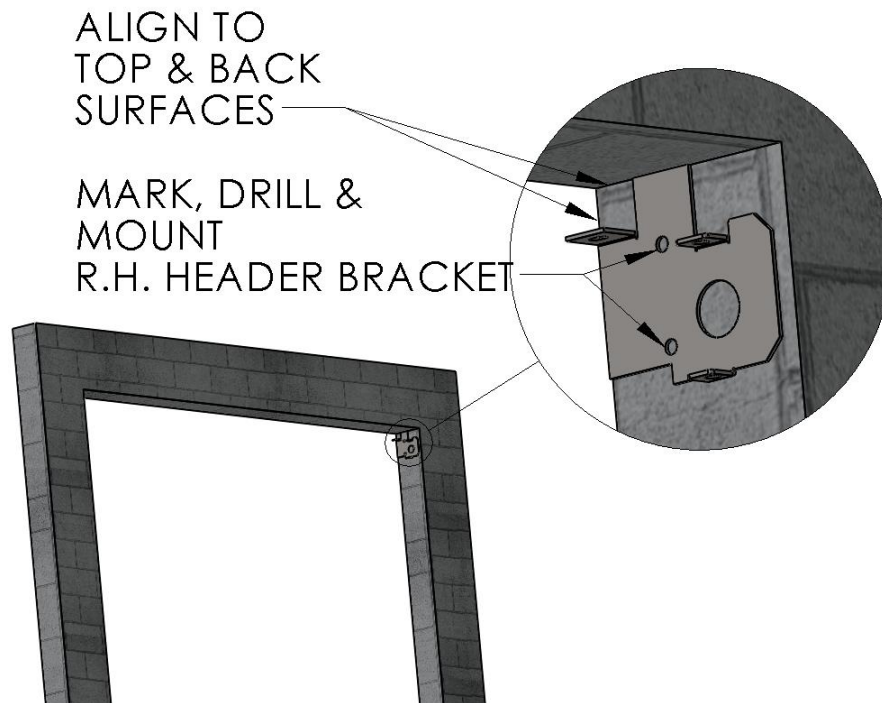

Figure 4 MOUNT SPRING HEADER BRACKET
3. At the upper right of the opening, use the R.H. Header Mounting Bracket to transfer the hole locations to the mounting surface, and install this bracket. (Figure 4 MOUNT SPRING HEADER BRACKET)